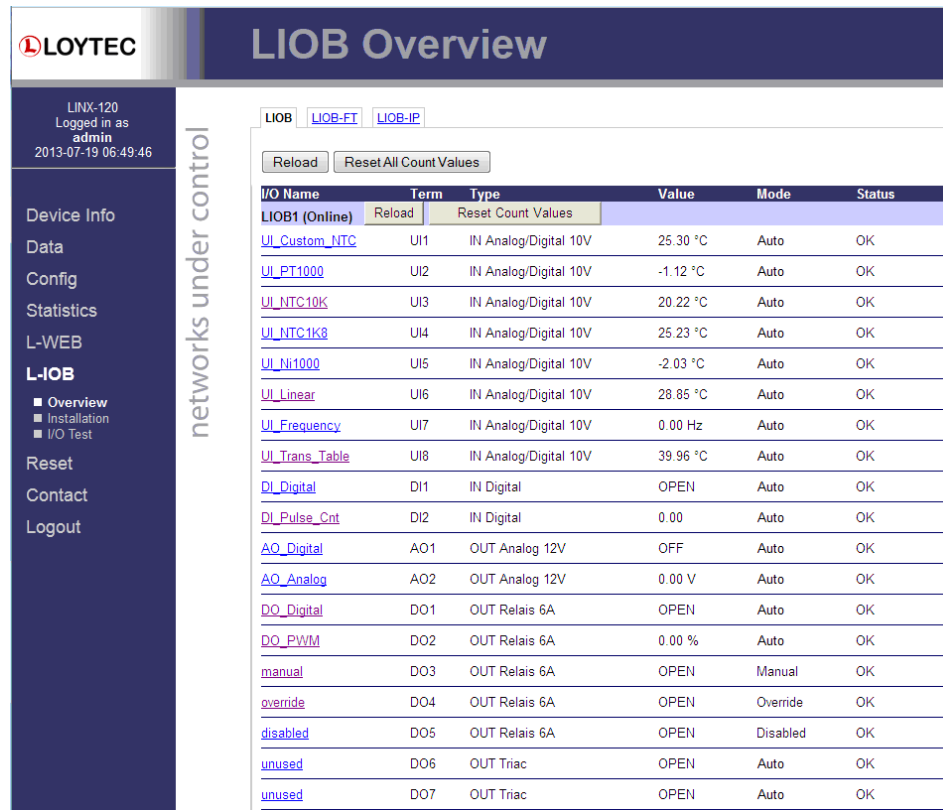

Figure 21: Checking L-IOB inputs and outputs on the Web UI
5. After downloading the configuration into the L-INX device, the L-IOB inputs and outputs can be checked with the L-INX Web UI. An example is shown in Figure 21.